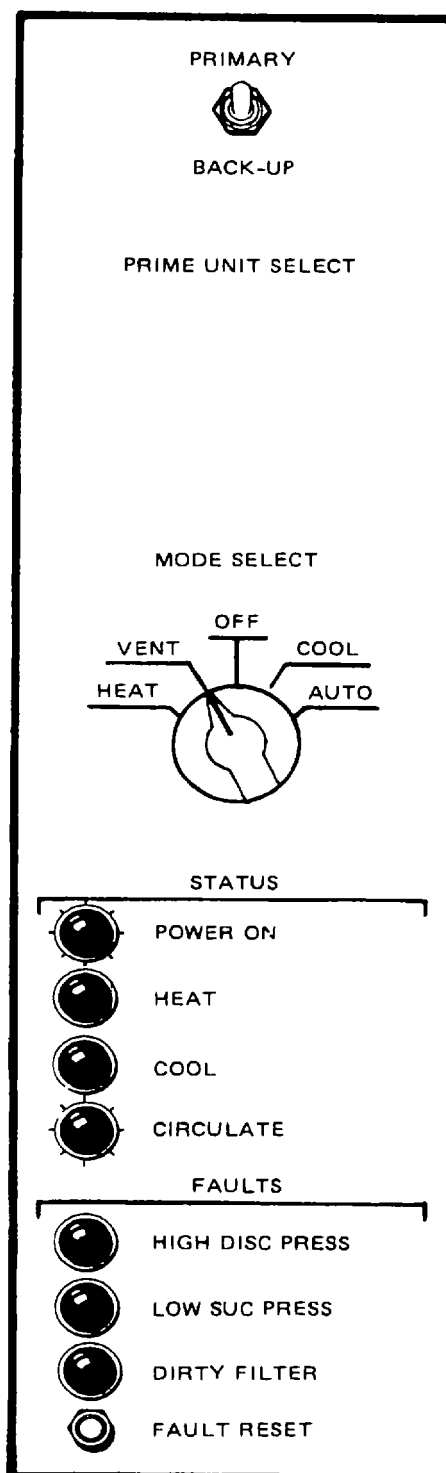

Figure 2-3. Ventilate Mode
**2.8. OPERATION IN VFNT MODE** (see fig. 2-3)